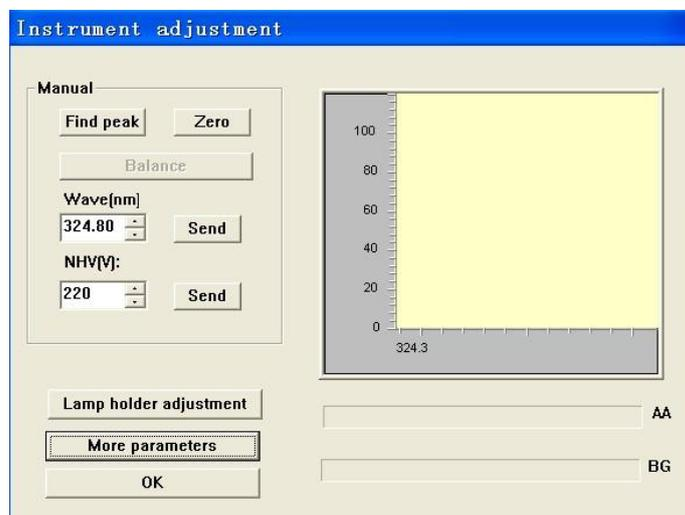

Figure 4-43
1. Press "Instrument adjustment" to show a dialog as shown in Figure 4-43.